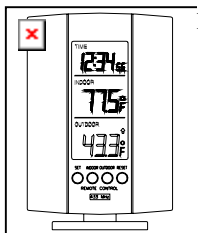

Figure 1
1. The Indoor Temperature Station (Figure 1)